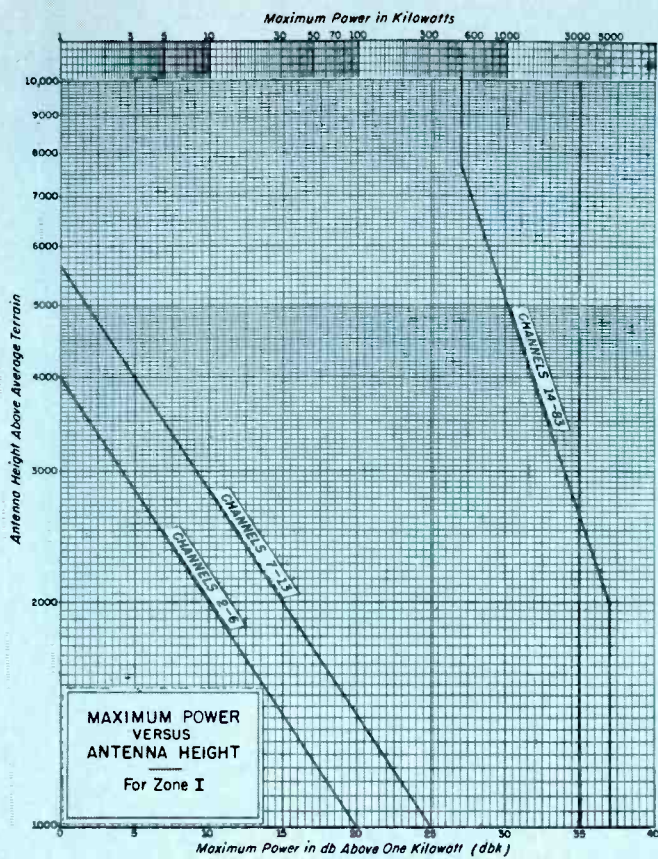

Fig. 1. Relationship between antenna height and power for Zone 1.
3. Maximum ERP in any horizontal or vertical direction must not exceed the applicable maximum listed in Table I and Figs. 1 and 2. When the antenna height above the average terrain is above the listed heights, the maximum designated ERP is reduced as shown in Figs. 1 and 2.